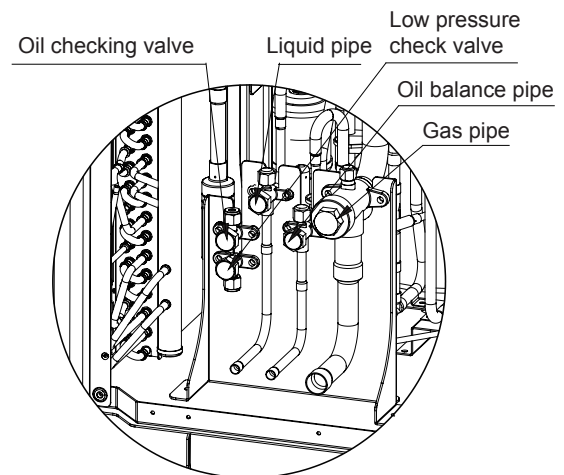

Fig.34
- (2) When there are more than 2 outdoor units, air purging from the nozzle located on the oil balance valve. Confirm outdoor oil balance valves are closed. See Fig.34.